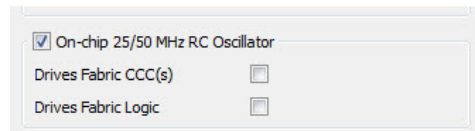

Figure 1-2 • Select the Resource
2. Select the resource type - FPGA Fabric CCC(s) and/or FPGA Fabric Logic - to which the selected oscillator(s) will be connected (as shown in Figure 1-2).